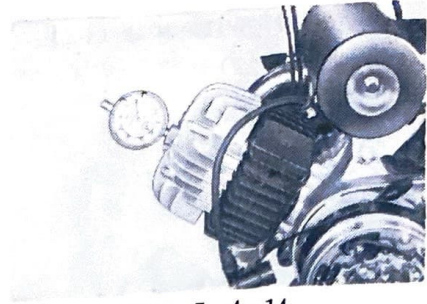

Fig. 5-4-14
- b) Screw the dial gauge adapter into the plug hole of cylinder head and install the gauge. Turn the armature bolt until the piston reaches top dead center, then turn the zero on the indicator to exactly that point where the needle stopped before reversing. (Fig. 5-4-14)